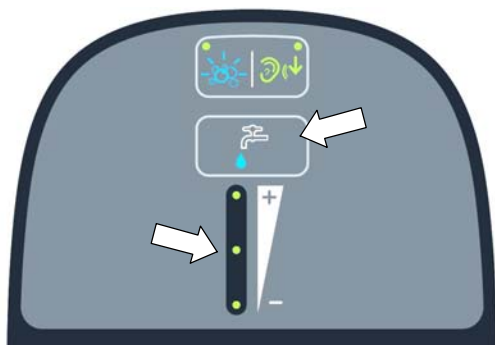

FIG. 33
2. Press the solution flow button to increase or decrease the solution flow rate (Figure 33). The solution flow indicator will display flow setting. No LED = No flow, One LED = Low flow, two LED's = Medium flow, three LED's = High flow.